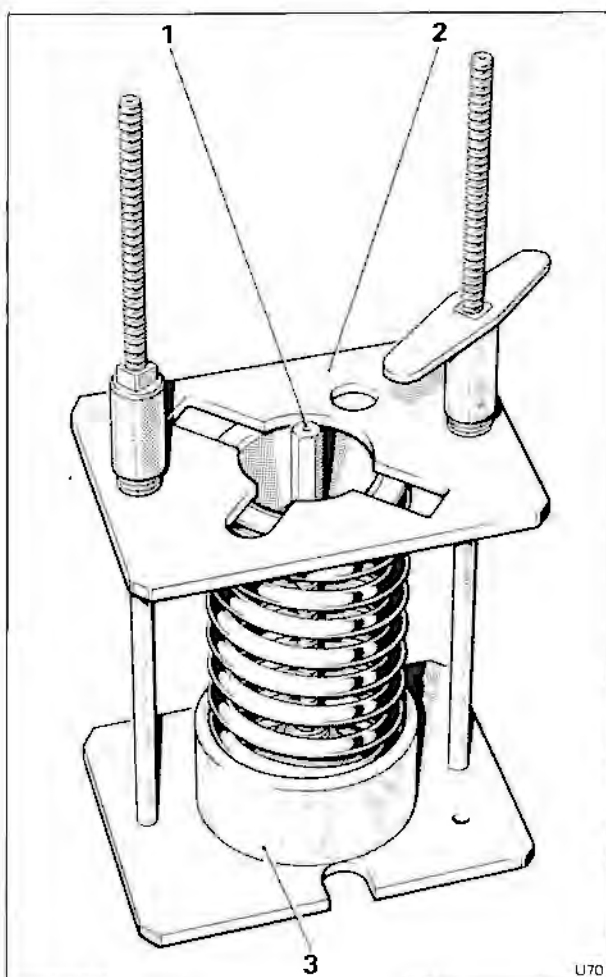

Fig. H10-3 Spring compression tools in position
9. Position the compressed spring into the compression tool with the upper spring support in the adapter block (see fig. H10-3).